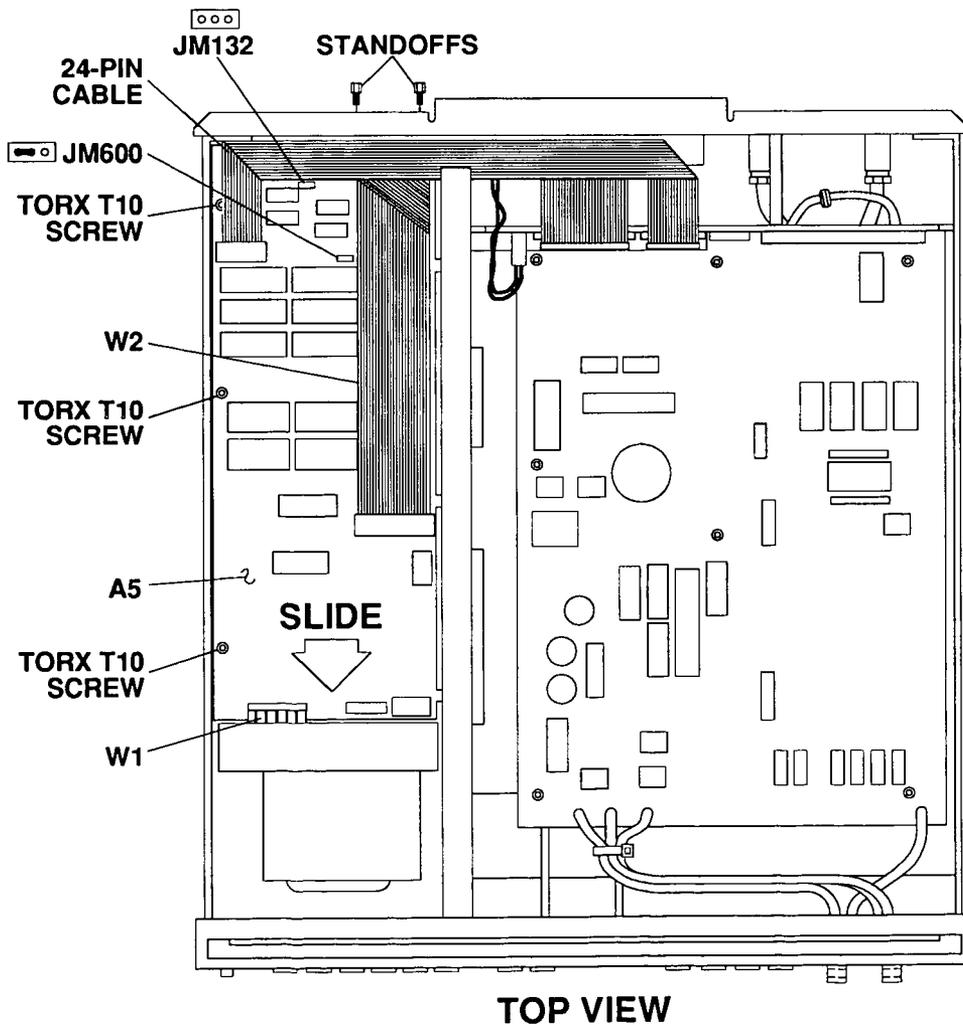

Figure 3-7. Remove and Replace A5 Outguard Logic PCA
2. Disconnect W1, W2, and 24-pin cable assembly from A5 Outguard Logic PCA (refer to Figure 3-7).